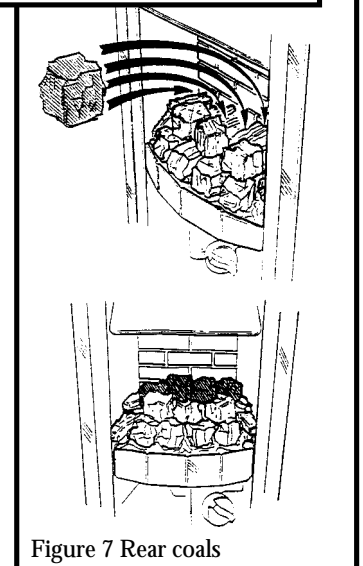

Figure 7 Rear coals
3.4 Place the four remaining coals along the back ceramic wall. See figure 7.